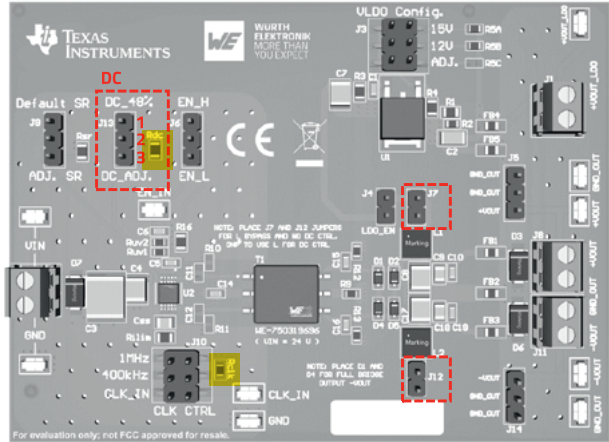

Fig. 6: Relevant jumpers and connections for duty-cycle control setup
Duty cycle control setup (Figure 6)
The 'duty-cycle control' is an optional feature of the SN6507 which allows to improve line regulation, making the output voltage level less dependent on input voltage variations. This is achieved by generating the duty-cycle as a function of the input voltage (see SN6507 datasheet for more details). The pin header J13 allows the use of jumpers to enable and disable the duty-cycle control function (DC). With figure 6 as a reference, observe the following: